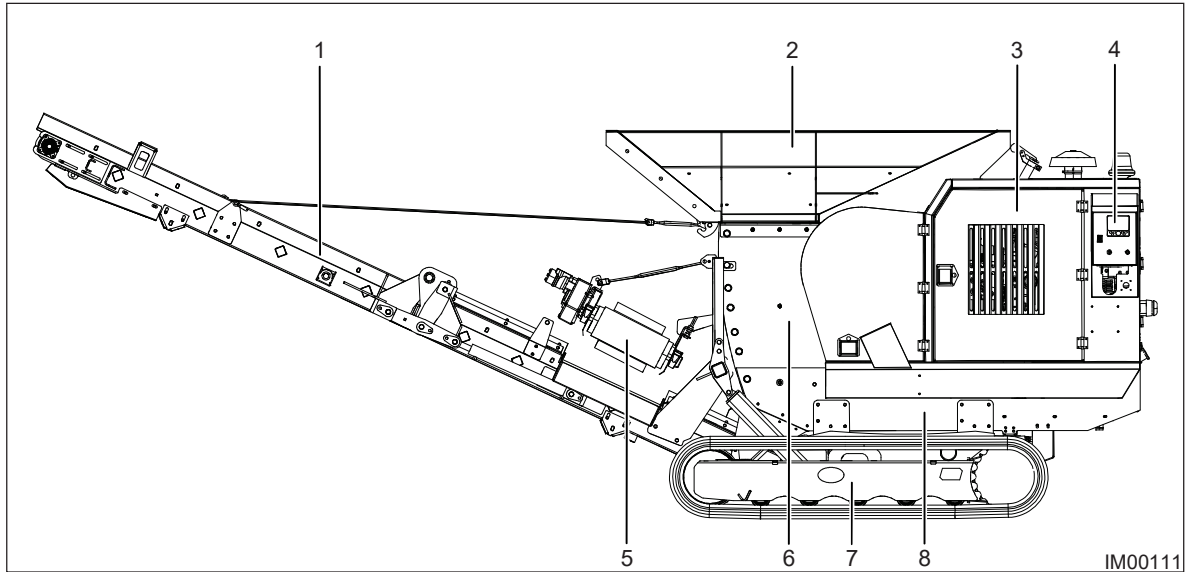

Fig: 3.1 - Component Identification
- Discharge Conveyor (Item 1, Fig: 3.1) - The crushed material discharged from the jaw crusher unit is collected on this conveyor and discharged into a stockpile.
- Feed Hopper/Feed Chute (Item 2, Fig: 3.1) - The material is loaded through a variety of means, loading shovels, digger buckets, or direct feed from another machine.
- Engine Compartment (Item 3, Fig: 3.1) - This is where the engine, control panel, and hydraulic system for the machine are located.
- Control Panel (Item 4, Fig: 3.1) - Is located on left-hand side of the engine compartment. It is used for placing the machine into the maneuvering, setup, and operation modes.
- Magnetic Conveyor (Item 5, Fig: 3.1) - A permanent magnetic conveyor which is suspended over the discharge conveyor from which iron is to be removed. The conveyor unit contains blocks of permanent magnet material, which are arranged to produce a powerful magnetic field.
- Jaw Crusher (Item 6, Fig: 3.1) - The jaw crusher is designed to impact particles that are placed between a fixed and a moving plate (swing-jaw). The faces of these plates are made of hardened steel and have multi-tooth jaw liners installed. The crushed size of the material is determined by the Closed Side Setting (CSS). When material enters the jaw crusher, the moving plate (swing-jaw) impacts the material against the fixed plate and breaks the material down to the set size. The material is then dispensed onto the discharge conveyor.
- Crawler Tracks (Item 7, Fig: 3.1) - These are welded to the chassis and are used for transporting the machine.
- Chassis (Item 8, Fig: 3.1) - Steel structured assembly where all machine components are fixed to.